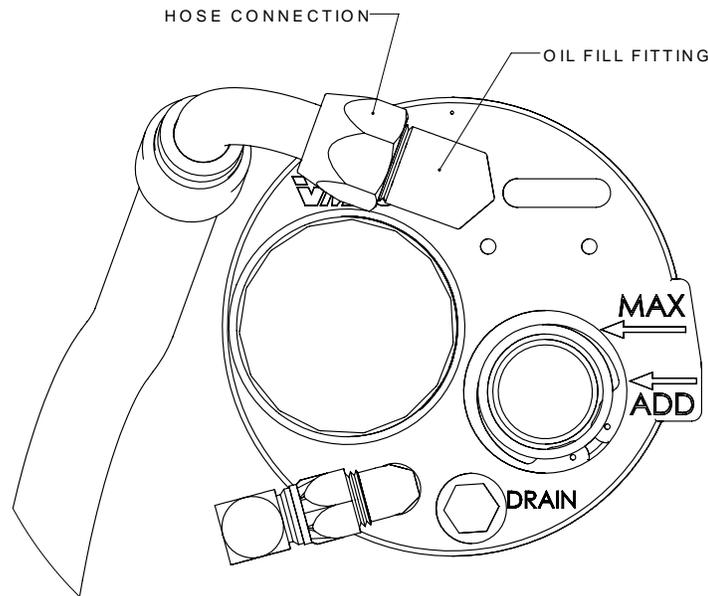

Figure 3 – Oil fill fitting location
- Ensure that the system pressure is discharged and remove the oil fill fitting hose connection, see Figure 3.